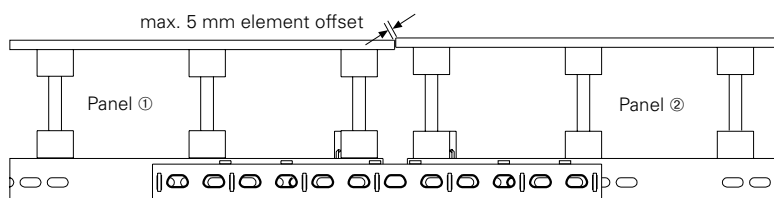

Fig. 1
- The smaller side of the trapezoidal-shaped cut-outs points to the concreted side. (Fig. 1)